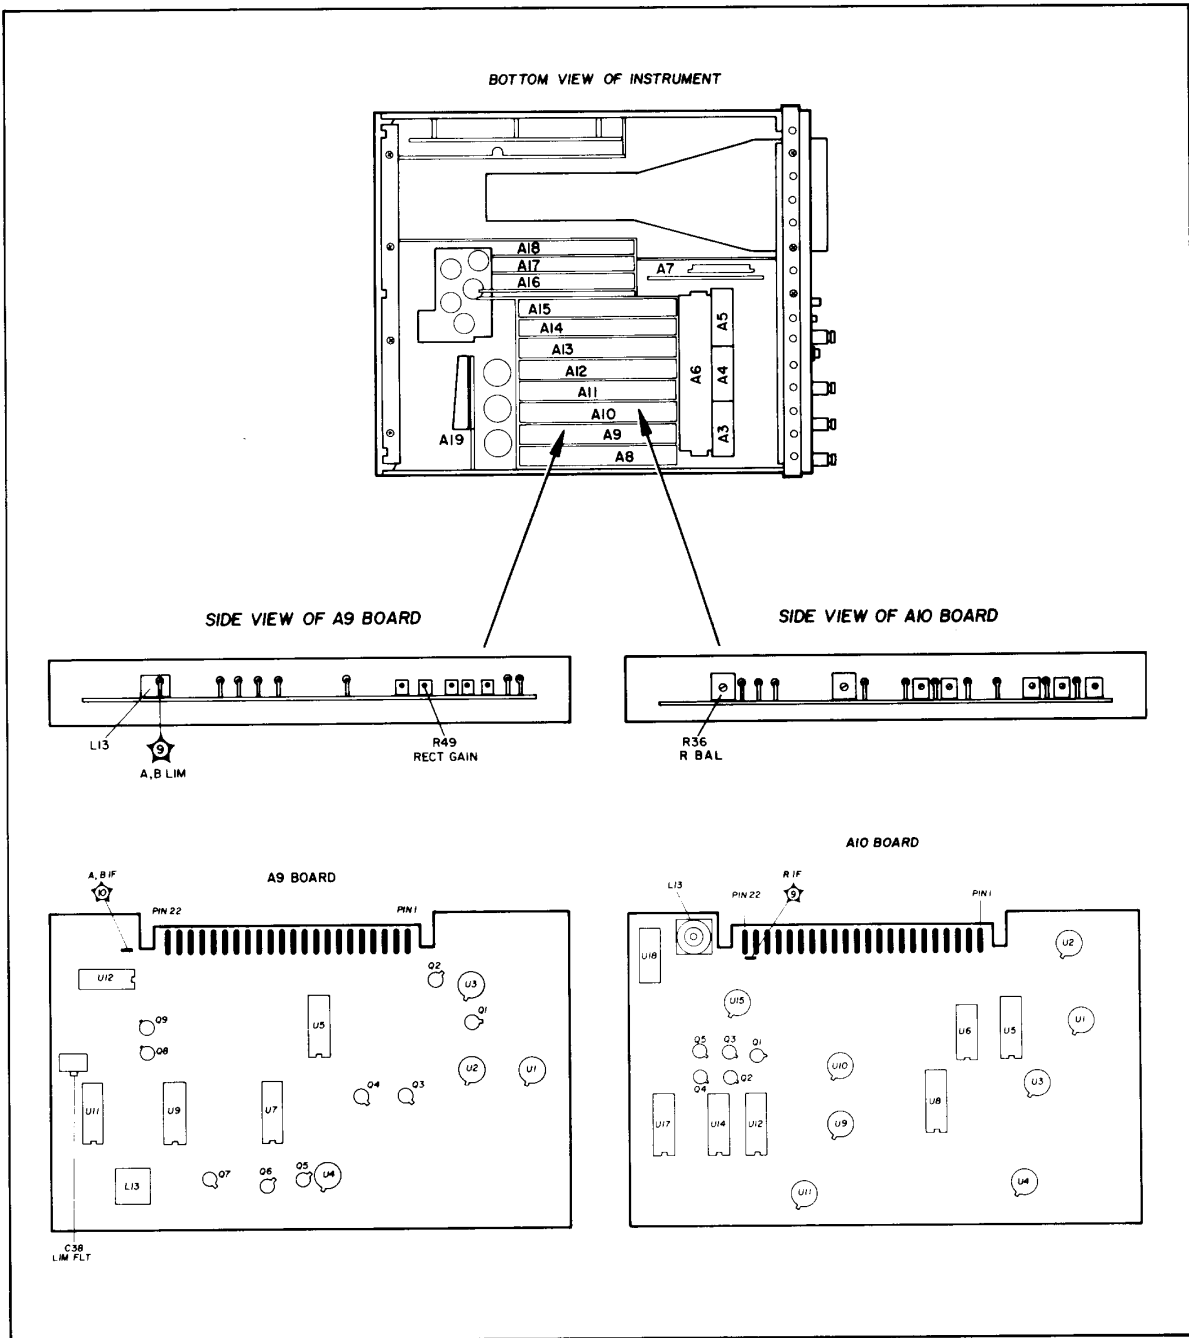

Figure 5-36. Phase Detector and Limiters Adjustment Locations
- q. Adjust A10L13 (pot core) for a 180-degree difference between oscilloscope traces, as shown in Figure 5-36.
- u. Return attenuator to 10 dB. If there is not a 180-degree difference between sine and square waves, as shown in Figure 5-36, repeat steps q through t.